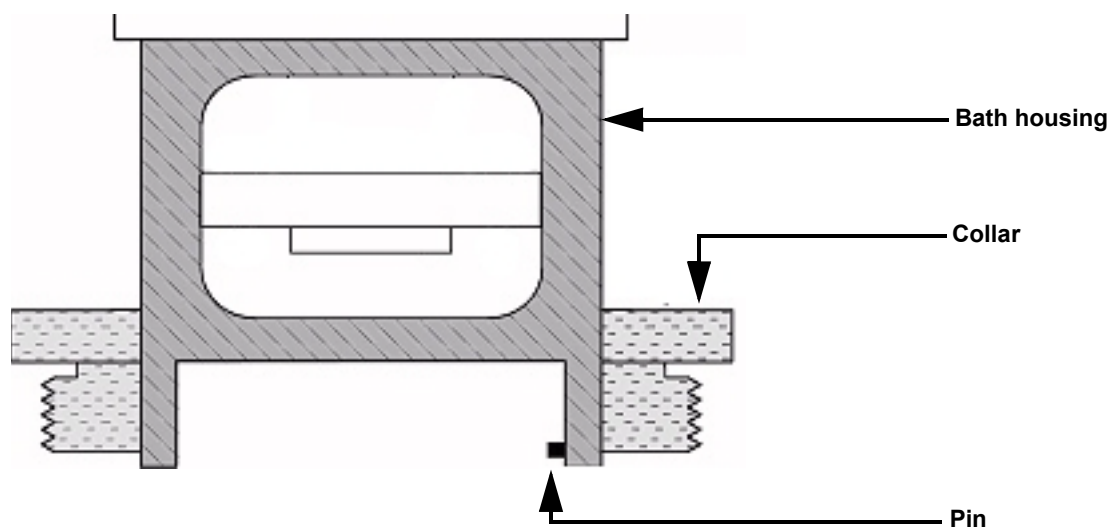

Figure 3 Fluid bath alignment pin configuration (cross section shown for visibility)
- c Seat the pin machined into the bottom of the fluid bath (see Figure 3) into the notch in the motor housing (the pin and notch should be located toward the rear of the instrument). It may be necessary to rotate the bath back and forth until the pin falls into the notch.